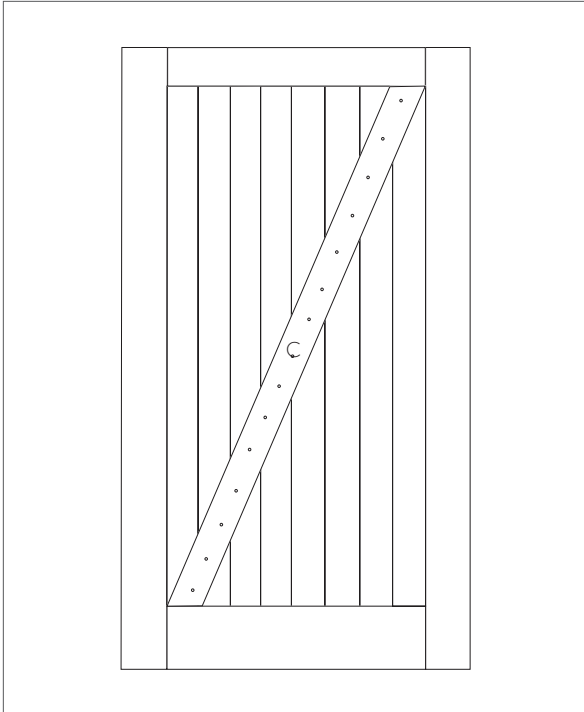

Figure 6
6. Lay the Diagonal Overlay (C) across the slats. Attach to slats and with phillips screws (D) using a drill with a phillips bit (Figure 6).